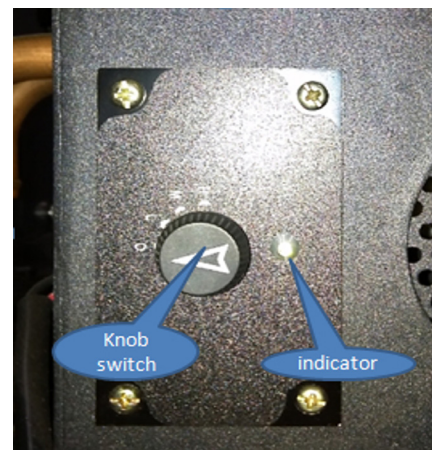

Figure 26b
- Close the heater before stop the engine, and open the heater after start the engine; the engine runs later, turn the switch to the right position; heater start to work, warm wind blow out from air outlet continuously(Fig.26b).